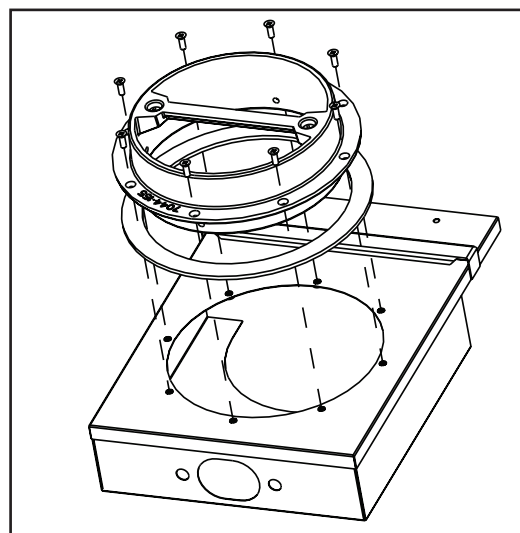

Figure 17.3
2. Slide the gasket over the flue collar and attach it to the offset adapter using the 8-32 flathead screws provided. **Figure 17.3**.